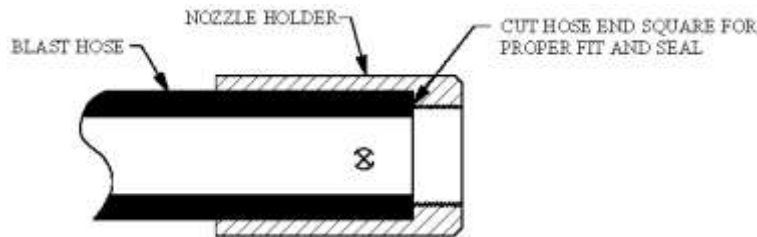

Figure 8.3 – Hose End Fit up
- 8.8. **Blast/Air Hose Coupling Gaskets:** All air hose, blast hose, and threaded couplings have gaskets that seal the connection. To protect against loss of air pressure and/or premature abrasive wear replace these gaskets when leaks are found. Inspect the couplings daily for leaks and wear. Replace gaskets when visible wear or leaks are found. When installing or replacing hose couplings cut the hose end square for secure fit (see Figure 8.3). To ensure proper coupling connection always use fittings that are the same brand. See the drawings and part lists in Sections 9.1 and 9.2.